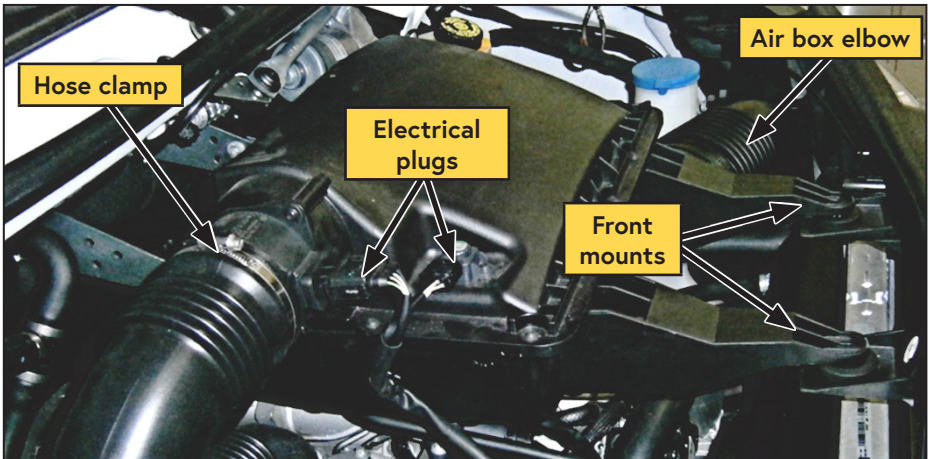

Figure 7 — Remove air box
- Remove the airbox located in the center of the engine bay. Remove the 2 electrical plugs, the hose clamp, airbox elbow and pull the 2 front mounts straight up. Move the assembly out of the way (Figure 7).